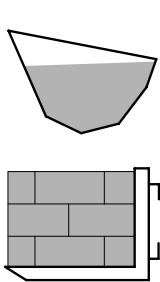

Fig. 1
- The implement's maximum load level must not exceed the lowest side when handling bulk materials, and must not exceed the height of the backplate when handling unit loads [see Fig. 1].